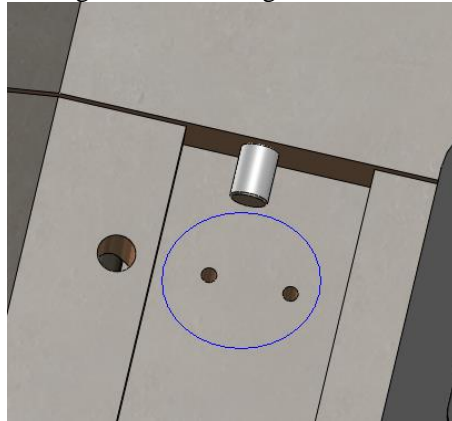

Figure 47: Clean mating surface
1. Clean the brake switch mating surface. See Figure 47.